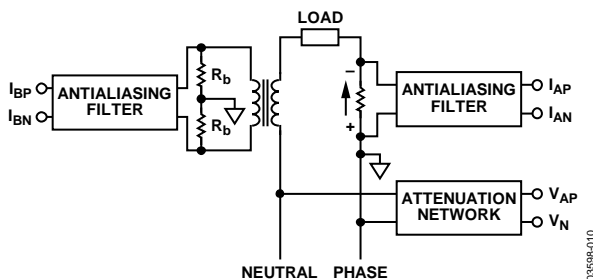

Figure 10. Single-Phase, Two Current Sensors
Figure 10 shows an anti-tamper connection diagram, which uses a current transformer (CT) for tamper detection. Generally in these cases, at least one of the sensors, must be a CT or a Rogowski coil for isolation purposes.